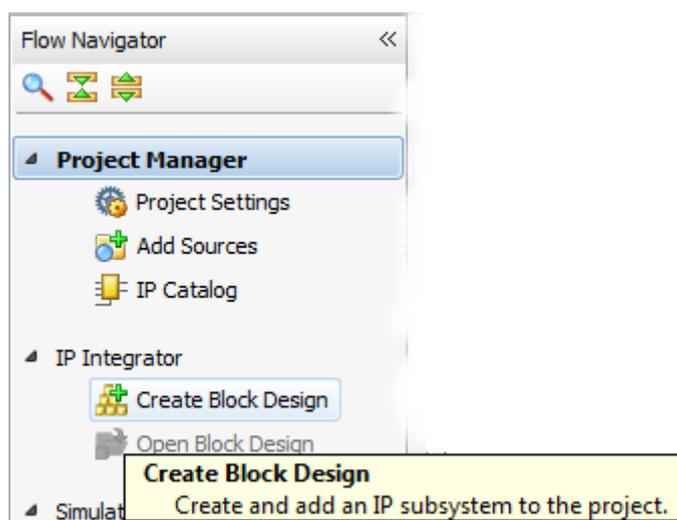

Figure 2.5: Creating a New Block Design in Flow Navigator
- (a) In the *Flow Navigator* window, select **Create Block Design** from the *IP Integrator* section, as in Figure 2.5: